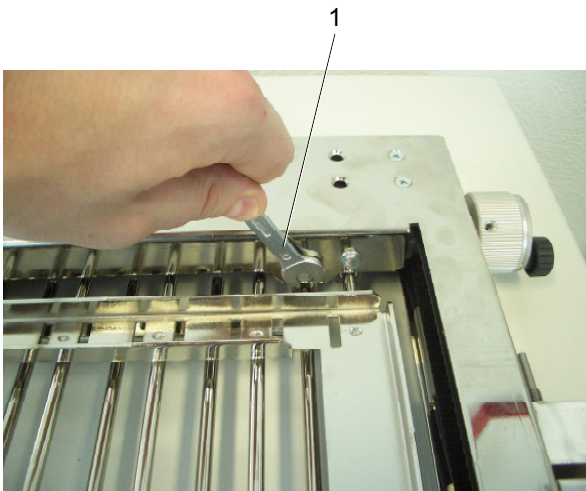

Fig. 66 Tightening the upper screws
13. Tighten the right screw (Fig. 66/1) with the open-end wrench to ensure that the fold plate grate remains firmly in that position.